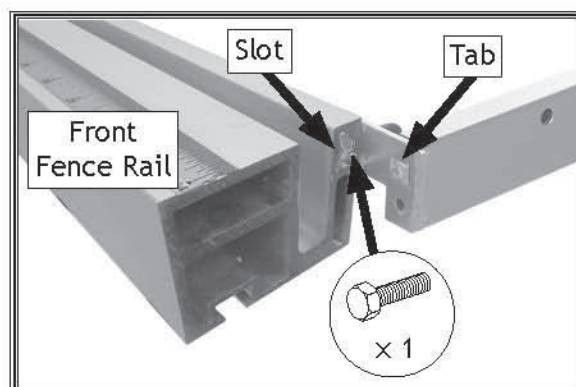

Figure 32. Attaching front end of fence rail brace.
29. Insert (1) M8-1.25 $\times$ 16 hex bolt into front end of fence rail brace, then slide hex head and tab of brace into slot in front fence rail (see Figure 32). Tighten cap screw and hex nut on rear end of fence rail brace.